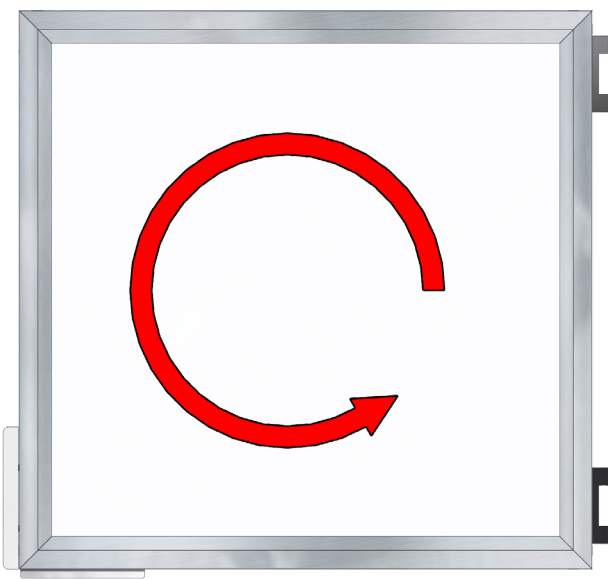
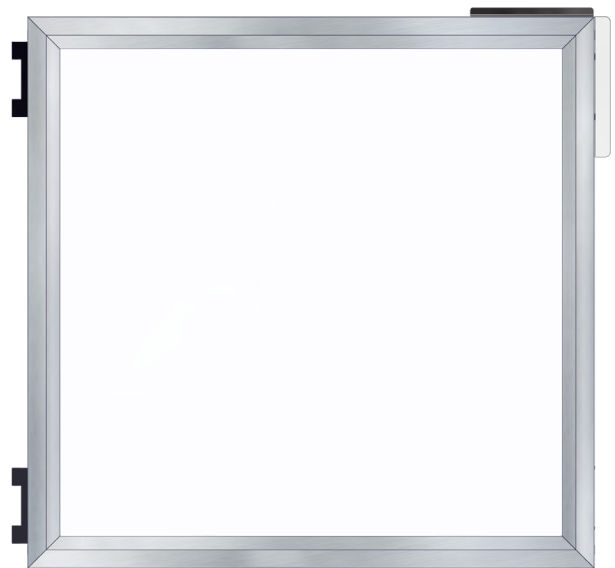

Fig. 52: Rotate Modified Door
Fig. 53: Door Rotated to New Installation Position
6. With the door handle and the Cam Lock Plate in their new positions, rotate the door 180° (Fig. 52). Figure 53 shows its orientation when reinstalling the door on its new hinge position.